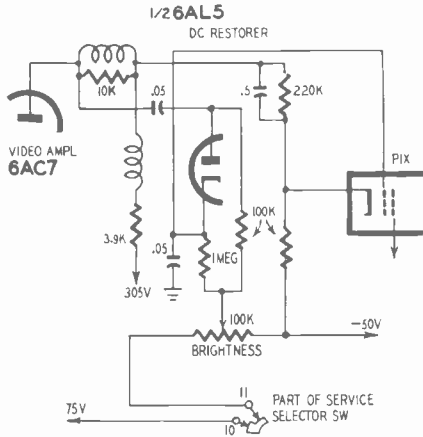

Fig. 2-D. The dc restorer acts as an automatic brightness control.
**SYMPTOMS:** Poor dc restoration, making upper part of picture background appear gray, as shown in Fig. 1-D. Restorer generally consists of duodiode or germanium crystal, 1N34, coupled to video output. For all practical purposes, the dc restorer acts as an automatic-brightness control, hence must function properly if brightness is to be satisfactory. See Fig. 2-D.